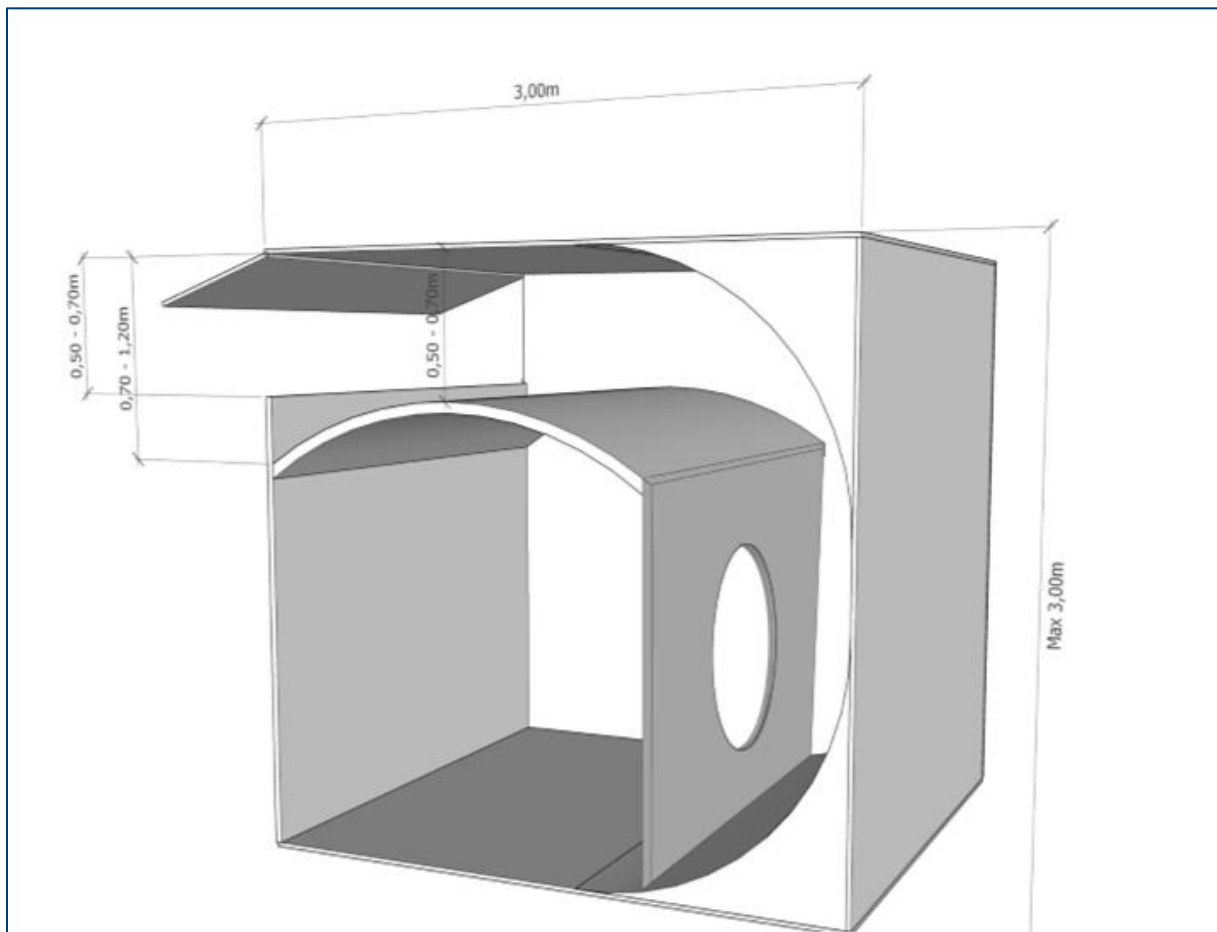

Figure 6-41 - Recommended dimensions for the Hub Mock-up
- 1) Mock-up with enclosed space to simulate the hub, with a height differentiated crawl way. Figure 6-41 provides dimensions to the GWO recommended Hub mock up. The training provider can deviate from the recommended hub measures to facilitate a specific turbine design